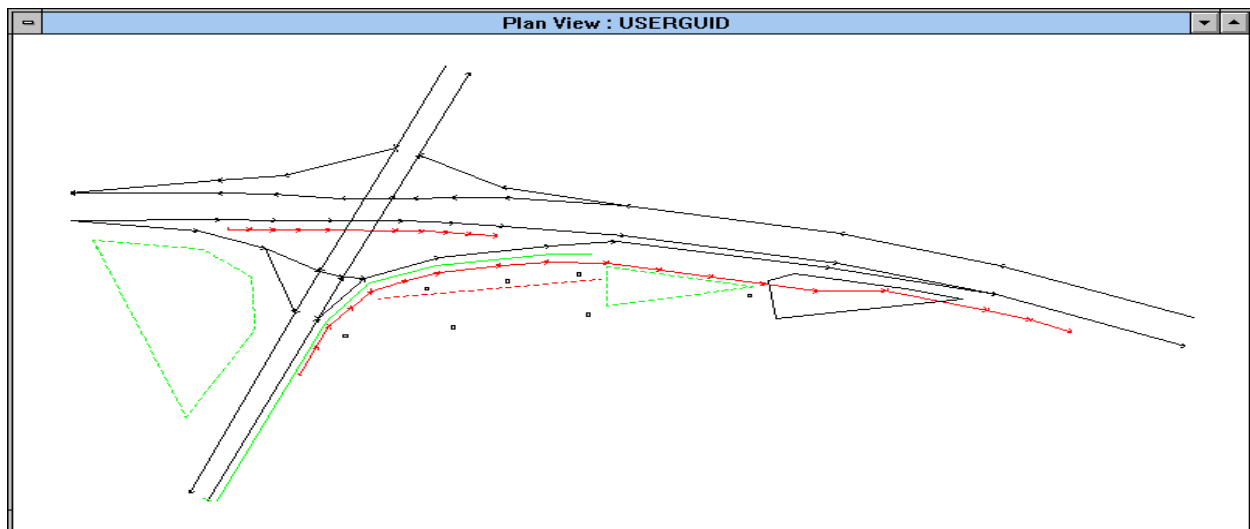

Figure 9. Plan view.
6.1.1 Plan View. A plan view is a graphical display of input objects from a viewpoint as if looking down from above (see Figure 9). TNM provides several ways to manipulate the view, i.e., by zooming, panning, and rotating (see Section 6.3 through 6.7).